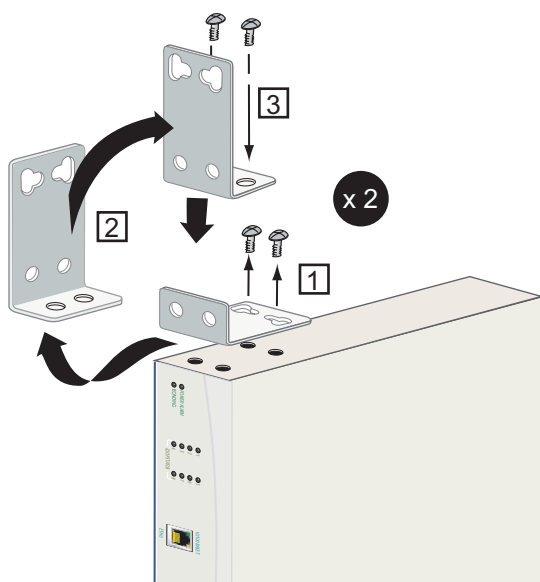

Figure 6. Repositioning the Brackets for 23-inch Racks
1.	<p>23-inch Installations Only:</p> <p>Remove the mounting brackets. (The Total Access 238 ships with mounting brackets attached for a 19-inch rackmount installation.) Attach mounting brackets so that the smaller portion of the bracket attaches to the side of the chassis. (The longer portion of the bracket will be flush with the front of the chassis.) See Figure 6.</p> <p>To avoid damaging the unit, use only the screws included in the shipment when attaching mounting ears to the chassis.</p>